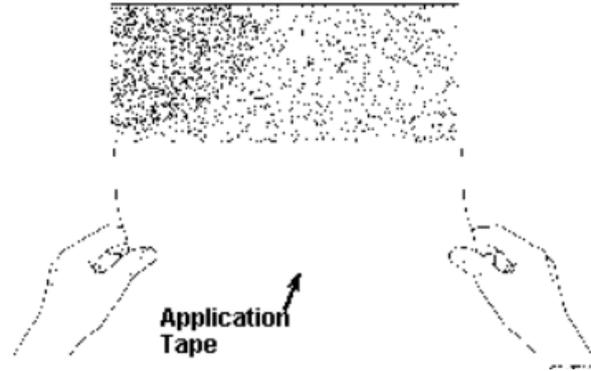

Figure 19. Removing Application Tape
Remove the application tape from the graphic by pulling it back upon itself at a 180 degree angle. See Figure 19. It is acceptable to tear the premask into manageable sized pieces.
3. Remove the application tape at a 180 degree angle. Refer to Figure 19, page 9.